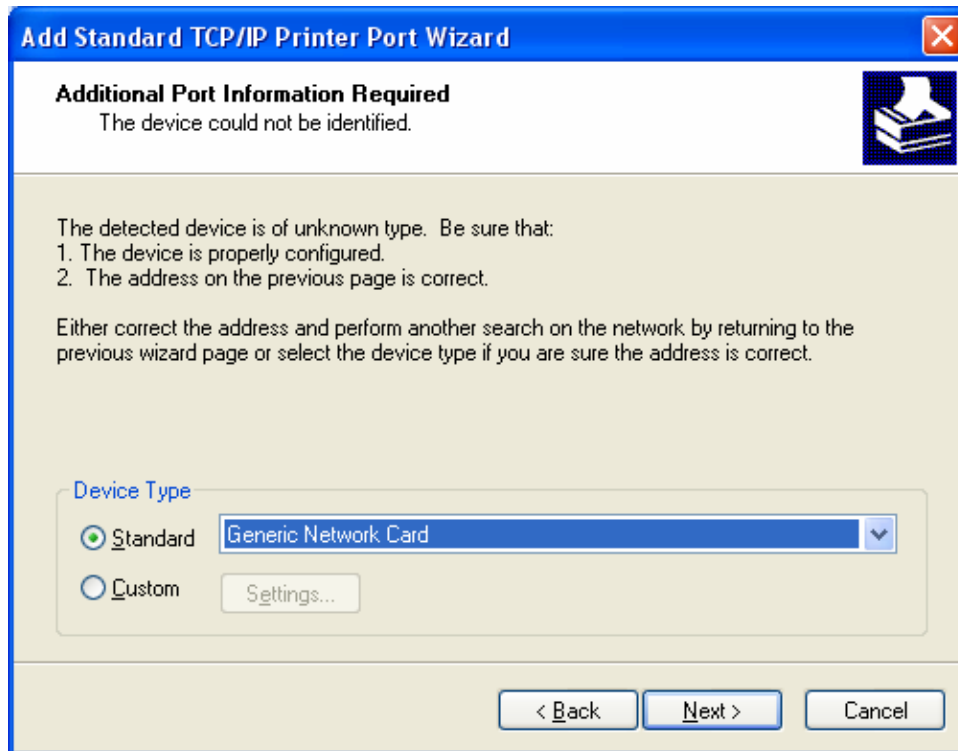

Figure 5.3.6 Add TCP/IP Print Port
- Default the content (figure 5.3.6) and click "Next" Button.